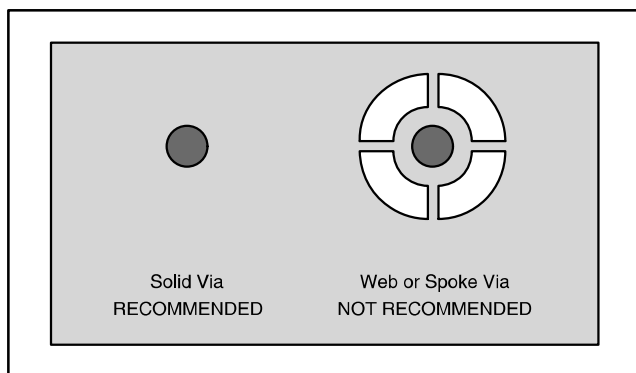

FIGURE 8. Via Connection.
5. When connecting these holes to the ground plane, do not use the typical web or spoke via connection methodology, see Figure 8. Web connections have a high thermal resistance connection that is useful for slowing the heat transfer during soldering operations. This makes the soldering of vias that have plane connections easier. However, in this application, low thermal resistance is desired for the most efficient heat transfer. Therefore, the holes under the PowerPAD package should make their connection to the internal ground plane with a complete connection around the entire circumference of the plated through hole.